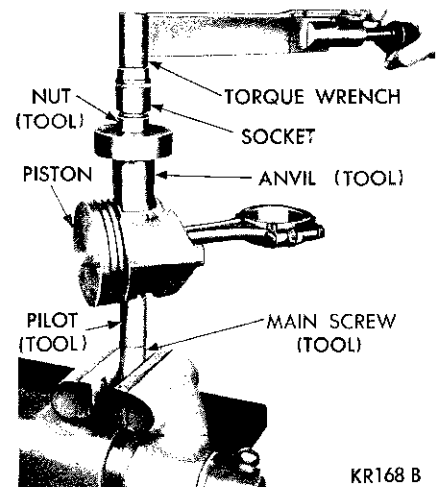

Fig. 42—Testing Fit of Piston Pin in Connecting Rod Tool C-3684
(11) Place the assembly in a vise, as shown in Figure 42.